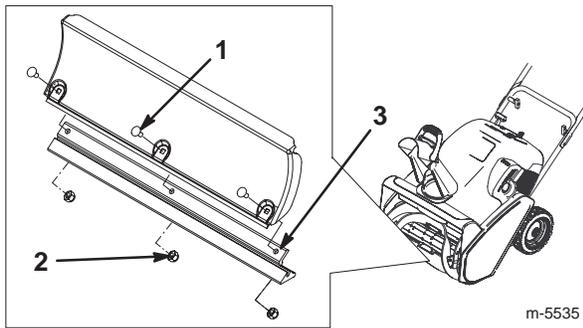

Figure 23
5. Remove the 3 carriage bolts and the locknuts that hold the scraper in place (Fig. 23).